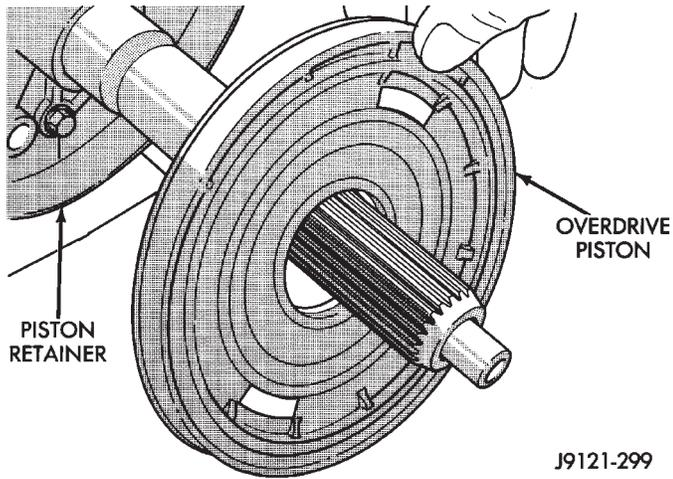

Fig. 212 Overdrive Piston Removal
(3) Remove overdrive piston from retainer (Fig. 212).